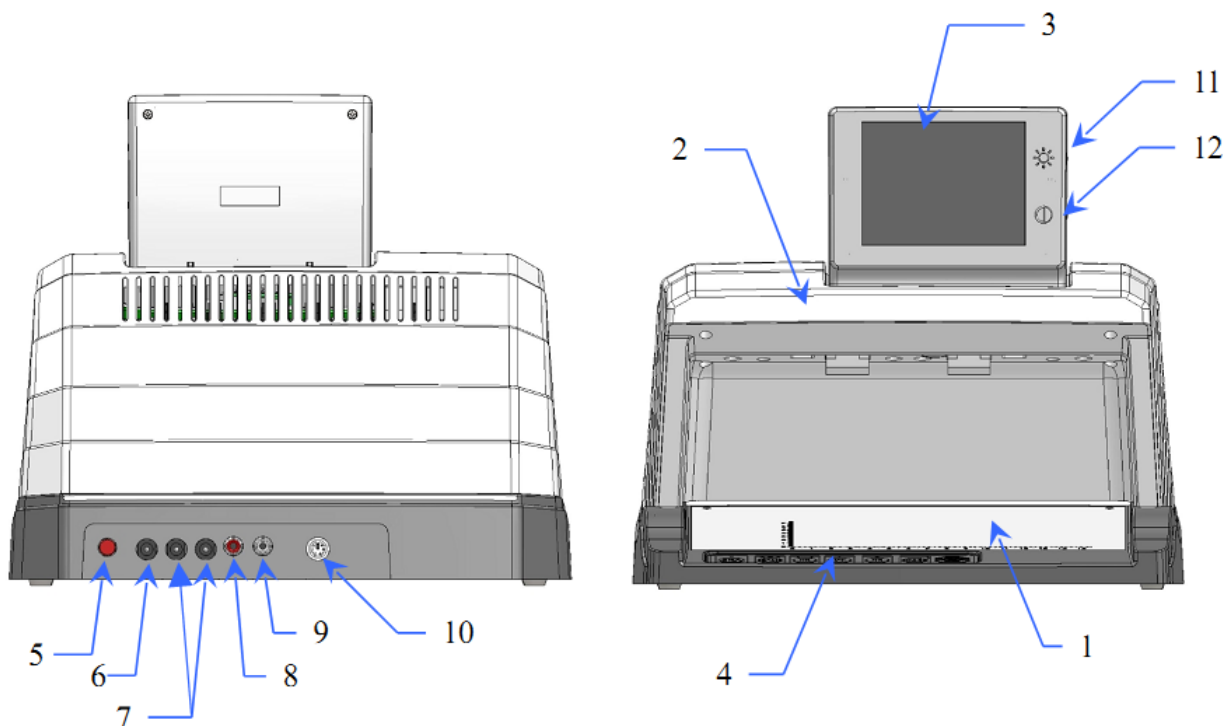

Fig.2 GEWR-09 appearance and controls
4.1. General view of the product is shown in Figure 2.
5.2.3. Connect the device to the mains using regular power supply via connector (position 6 Figure 2).
5.2.4. If necessary, connect additional external devices to the device via corresponding connectors (positions 7, 8, 10, Figure 2).
5.3.1. Enable the device using main switch knob (Position 5, Figure 2). The device will be in sleep mode, there will be a voltage of +12 V at power connectors of external devices (Position 7, Figure 2)
5.3.2. Enable the device with the ON button (position 1, Figure 3). The ON indicator flashes (position 1.1, Figure 3), as well as built-in video camera and display (position 3, Figure 2).
5.3.4. Place the controlled object on the working desktop of the product (position 1, Figure 2).
5.3.5. At the control in the infrared emission with built-in video channel or external video magnifier, use knobs (position 11, 12; Figure 2) to set the optimal brightness and contrast of the display.
6.4.1. Connect video magnifier to GEWR-09 via power connectors (position 7, Figure 2) and external video source connectors (position 8, Figure 2). Connection must be carried out when the device is disabled.